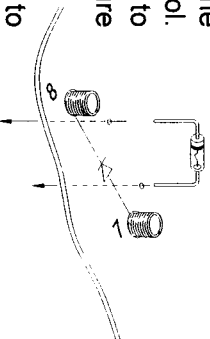

Figure 9
- ❑ From the top of the Cardboard panel, insert the two leads of the diode through the holes next to the schematic symbol. Banded end to terminal 6. (See Figure 9.)